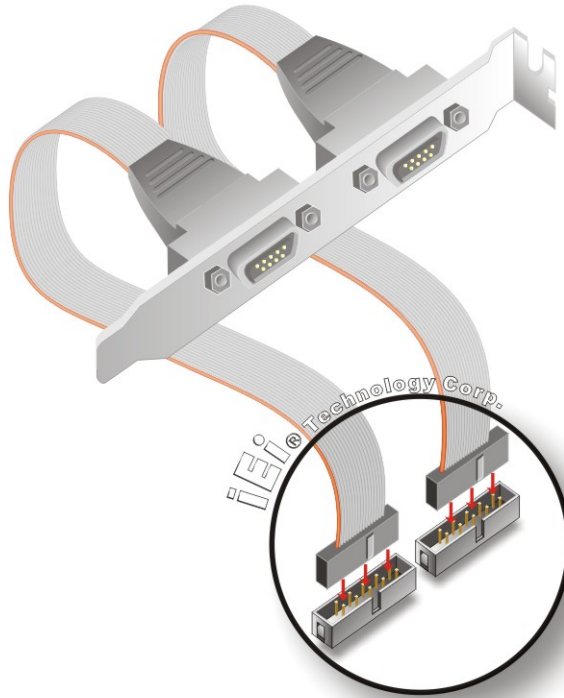

Figure 5-8: Dual RS-232 Cable Installation
Step 2: Insert the cable connectors. Insert one connector into each serial port box headers. See **Figure 5-8**. A key on the front of the cable connectors ensures the connector can only be installed in one direction.